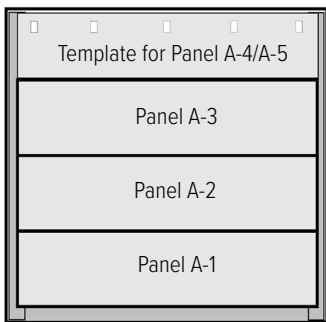

Figure 3.4.1
3.4.1 Place template marked “Elevation A/C Template” on top of the installed wall panel and screw it to the wall as shown in **Figure 3.4.1**.